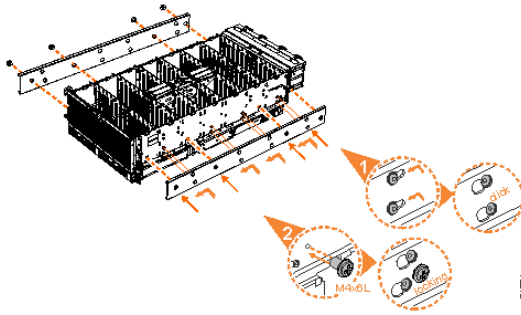

Figure 52. Attaching the inner rail section to the enclosure
5. Install the inner section of the rail onto each side of the expansion enclosure, as shown in Figure 52 on page 86.